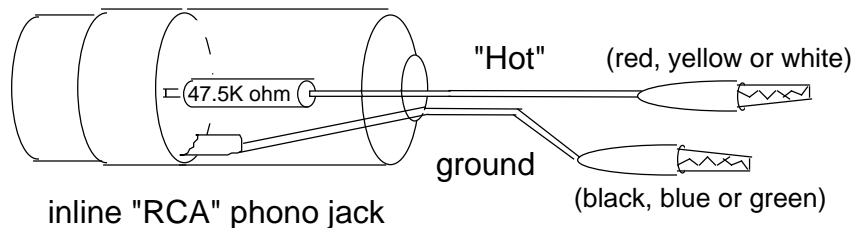

Figure 6: Required resistor within Probe circuit (at sensing end)
- 1). The DSP card has a very limited input voltage range, and exceeding this range can permanently damage the DSP card! It is strongly recommended that, unless the AC or DC input voltage from the unit which you are testing is guaranteed to never exceed 2 volts peak, you should use a mic/probe preamp to pre-scale and/or limit the peak voltage levels. If using the Liberty Instruments design for a mic/probe preamp, use IMP-type probes and never feed the probe inputs of the mic/probe preamp except via such a probe having an appropriate series resistor (Figure 6). The standard IMP-type probe used with LAUD has a 47.5K ohm series resistor in the hot lead at the sense end, and with the mic/probe preamp, provides protection for up to 140 volt signal peaks. These probes cannot be used connected directly to the DSP card, but require a Mic/Probe Preamp to restore gain and maintain bandwidth.